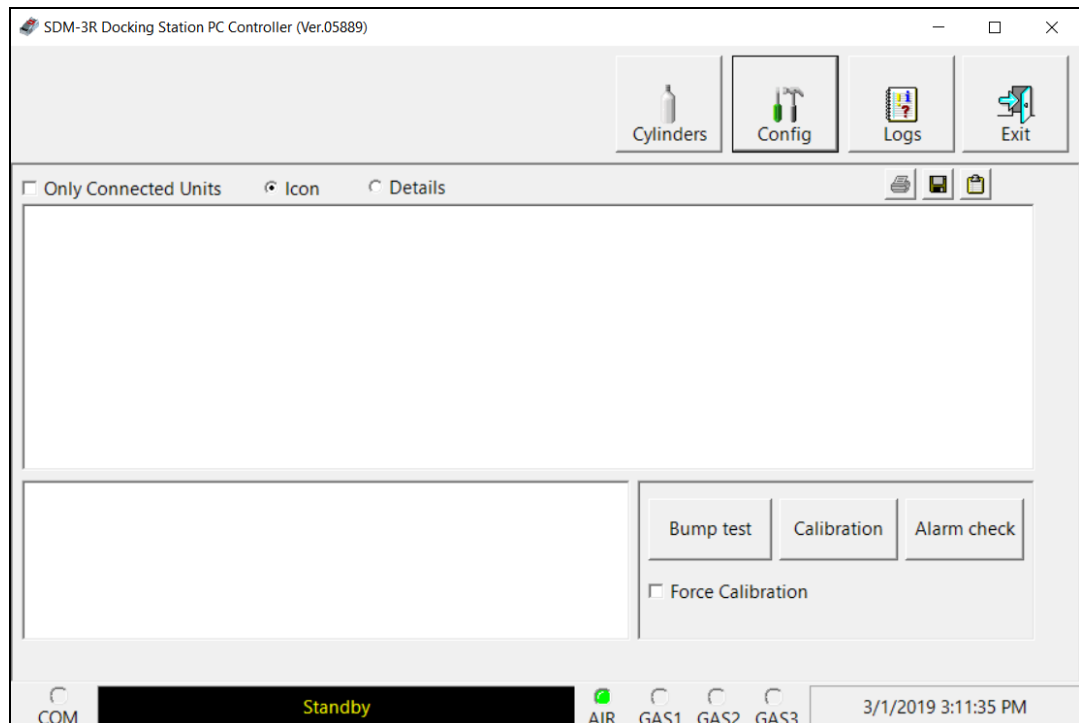

Figure 38: Main Program Window
3. Click **Start** on the Windows Icon Tray, then select **Programs/SDM-3R**. You may also double click the shortcut created on your desktop. The PC Program is launched and the main program window appears, as shown in Figure 38.